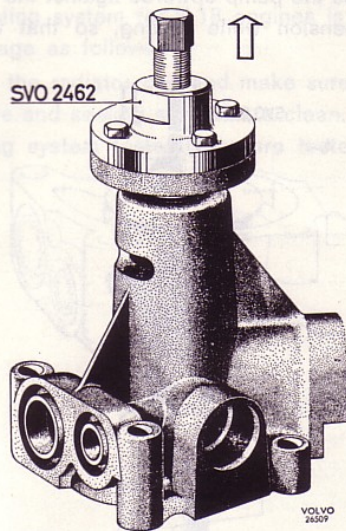

Fig. 112. Removing the hub
2. Firmly fit puller SVO 2462 on the hub with the bolts for the pulley and pull off the hub. See Fig. 112.